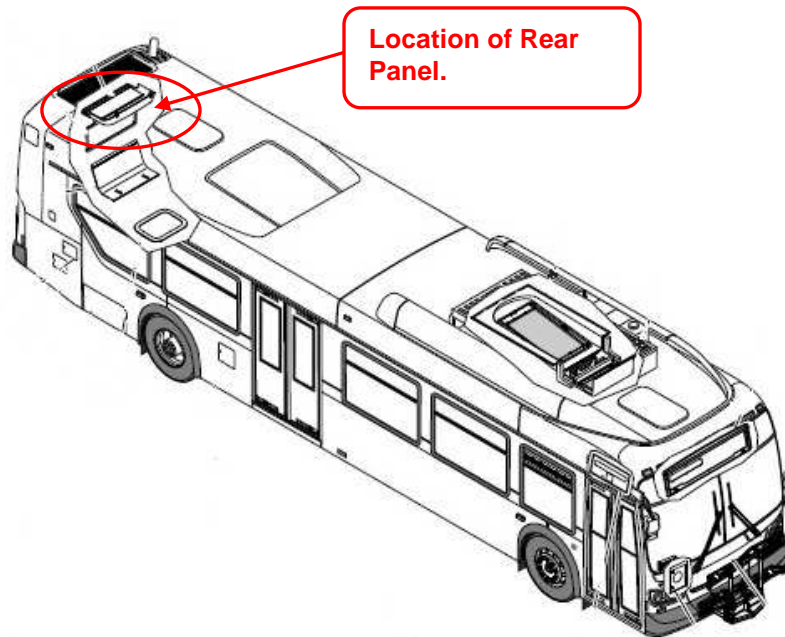

FIGURE 1. Location of Rear Panel.
2. Gain access to the rear panel. See Figure 1.